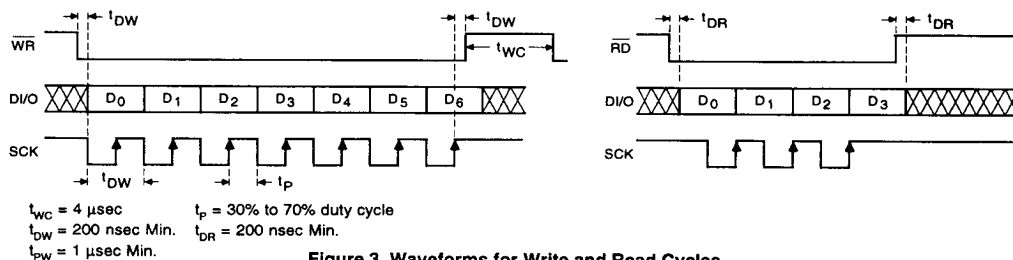

Figure 3. Waveforms for Write and Read Cycles
2. Information from the modem IC. Data is read serially from the modem when  $\overline{RD}$  is low, on rising edges of the SCK clock. (See Figure 3 for read cycle waveforms). Up to 4 data bits (D0-D3) can be read as defined below:
are shifted by repeating the above procedure. Only 7 data bits should be sent. If an 8th data bit is sent, the first data bit D0 will be lost from the input register. The received data will then be D7-D1 rather than D6-D0. To read data from the SC11004/14 (see timing waveforms of Figure 3), the RD line is first made low. The least significant bit D0 is now available on the DI/O line. The SCK line is toggled low and then high to shift the next data bit out of the SC11004/14 output register. The SC11004/14 shifts the data out on the rising edges of SCK. The controller should read data on the falling edges of SCK when it will be stable. Note that D0 appears on the DI/O line as soon as RD is taken low. If the controller only wants to read the status of the energy detector, there is no need to toggle SCK line. By making RD low, the energy detector level can be read by reading DI/O. RD can then be taken